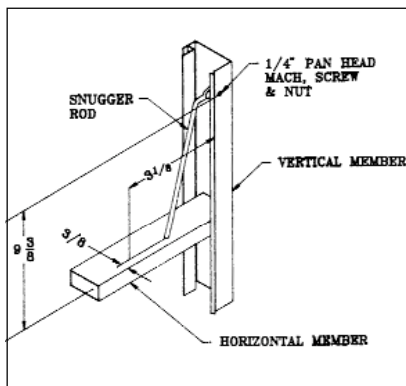

FIGURE 12
Select a horizontal door member that is at a convenient height and drill (1) 17/32" diameter hole as shown. Next, drill (1) 9/32" diameter hole in the vertical door member. **See figure 12.**